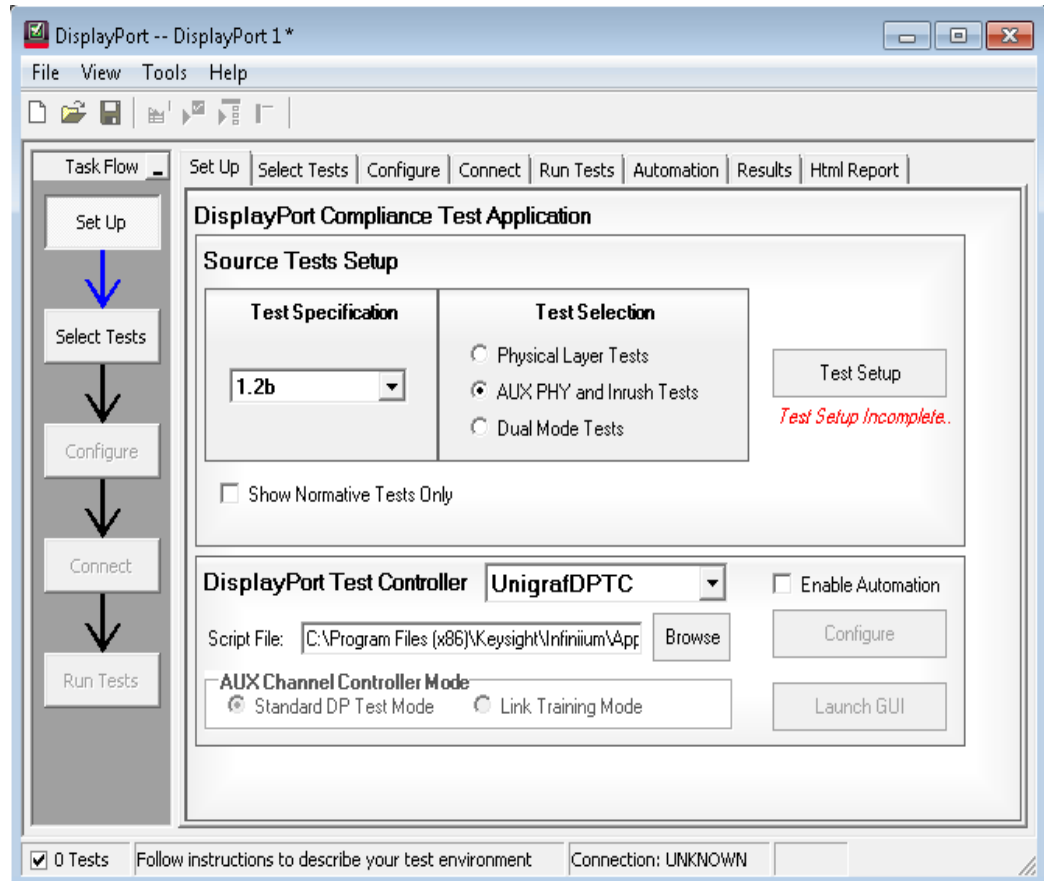

Figure 43 Set Up tab on the DisplayPort Compliance Test App
- 3 On the DisplayPort Compliance Test Application, click the **Set Up** tab (see Figure 43).